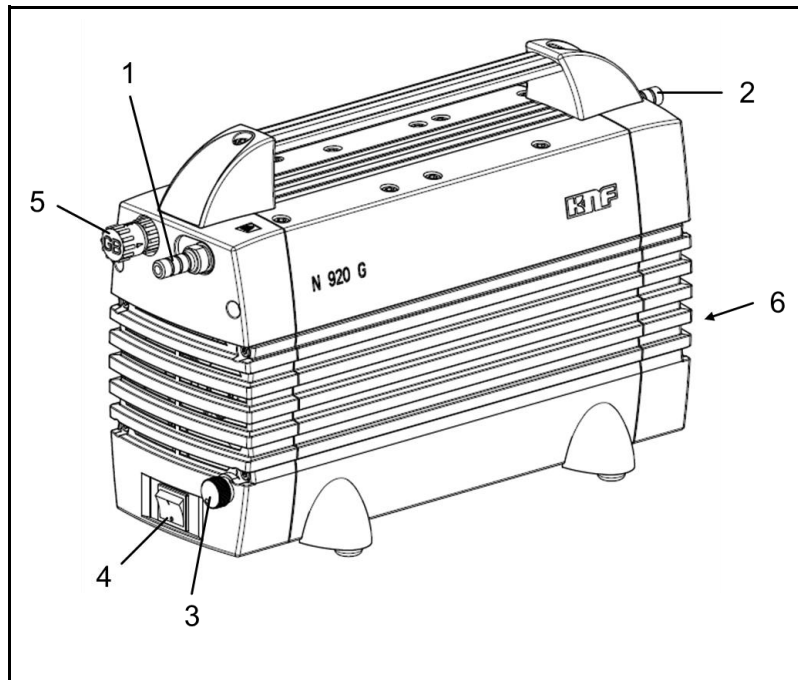

Fig. 2: Design N 920 KT.29.18G
4. If necessary, use the interface cable to connect the pump with the vacuum controller VC 900 (Fig. 2/6, see Chapter 10.2 *Accessories* for interface cable). Further information on connecting see operating instructions VC 900.
- Switch on pump with mains switch (see fig. 2).
- Switch off pump with mains switch (see fig. 2).
The pump's speed can be varied via the potentiometer (fig. 2/3). The flow rate can be adjusted this way.